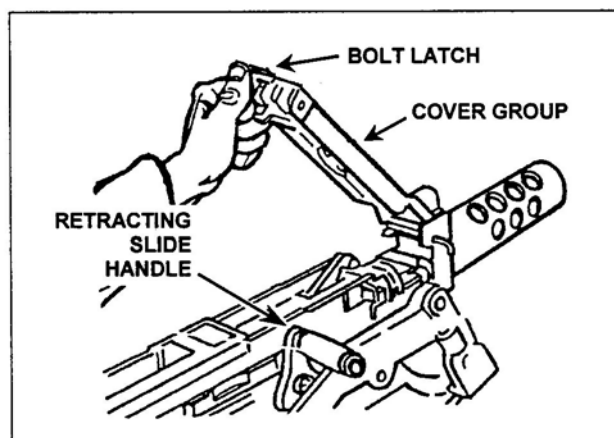

Figure 1. Raising the cover.
- a. Unlock the bolt latch release and raise the cover (Figure 1).
- (1) Unlock the bolt latch release and raise the cover.
- (2) Pull the bolt to the rear and examine the chamber and T-slot to ensure they hold no rounds.
- (1) Raise the cover group (Figure 1).